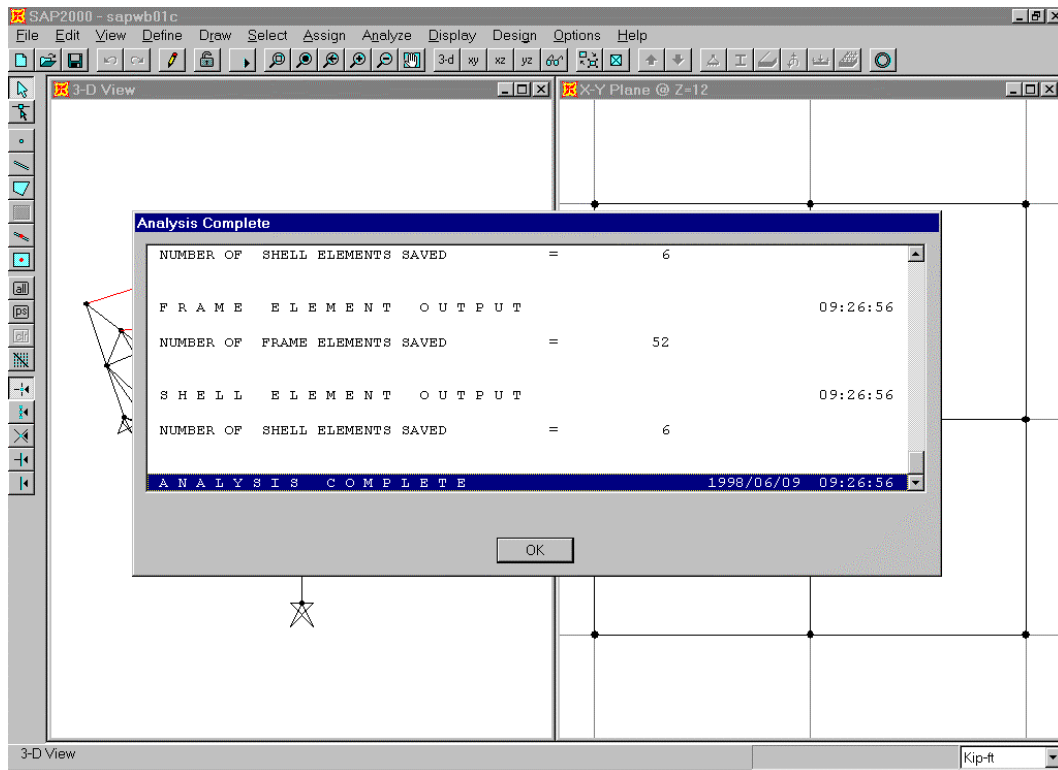

Figure C-18: Screen Message When Analysis Is Complete
4. A window is opened in which various phases of analysis are progressively reported. When the analysis is complete the screen will display as shown in Figure C-18.